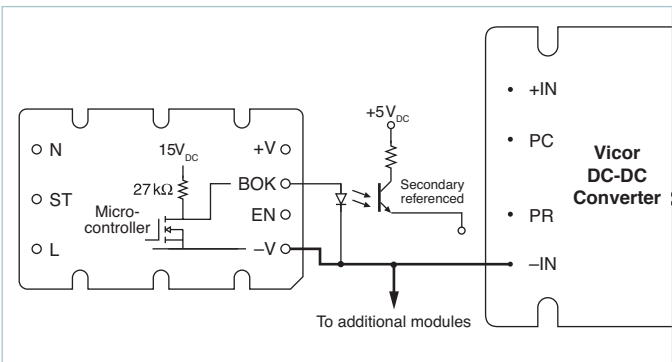

Figure 12 — Bus OK (B OK) isolated power status indicator
Bus-OK (B OK) Pin: (See Figure 12) The Bus-OK pin is intended to provide early-warning power fail information and is also referenced to the negative output pin.
The power fail warning time (Δt) is defined as the interval between (B OK) and converter shutdown (EN) as illustrated in Figure 12. The Bus-OK and Enable thresholds are 205V and 190V, respectively. A simplified relationship between power fail warning time, operating power, and bus capacitance is obtained by inserting these constants: